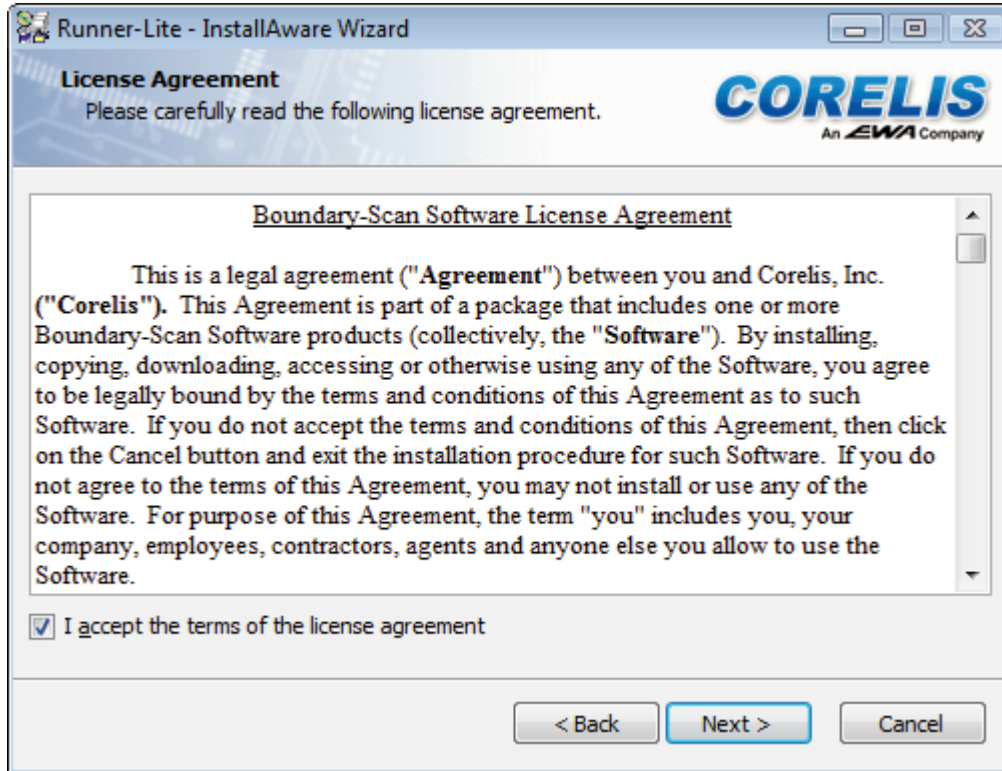

Figure 2-4. License Agreement Screen
5. The **License Agreement** screen shown in Figure 2-4 will appear. Review the entire agreement, and if you agree to it, check the **“I accept the terms of the license agreement”** checkbox. Click on the **Next** button to proceed to the **Customer Registration** screen. If you do not accept the license agreement, click **Cancel** to cancel the installation.